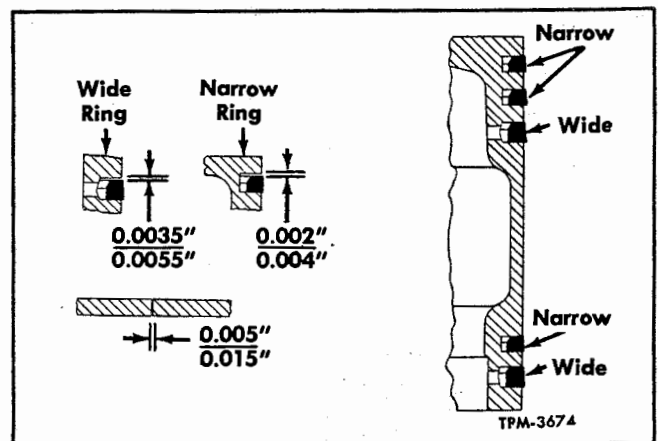

Figure 36—Piston Ring Arrangement and Clearance
3. Install piston rings in grooves of pistons. Rings must be installed in proper location and with pip marks upward. Refer to figure 36 for proper clearance dimensions and location of rings. Stagger position of ring gaps.